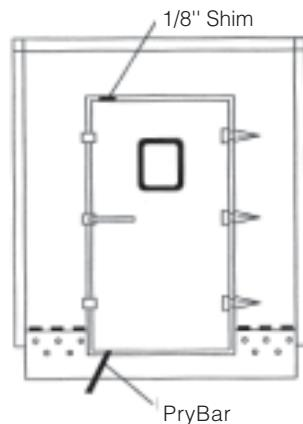

Figure 3-18. Raise Non-Hinged Side of Chamber Door
29. To prevent chamber door(s) from sagging while tightening the cabinet bolts, place a 1/8-inch shim between door header and the non-hinged side of the door (see Figure 3-18). Using a pry bar between the door threshold and bottom of door, raise non-hinged side of door and tightly pack the opening with shims.